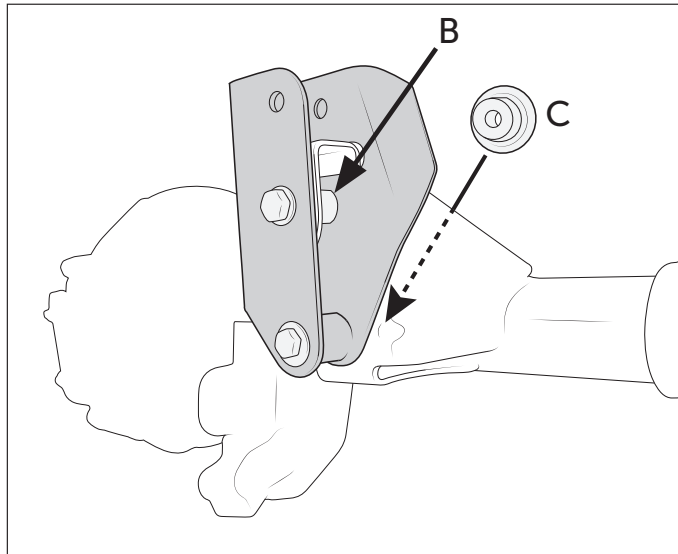

Figure 6
- B. Install the track bar tower in the orientation shown (Fig 6).
- C. Place supplied tube spacer between AEV bracket and factory axle bracket in original track bar location. Reuse factory bolt in this location (Fig 6-B).
- D. Install alignment puck into back side of factory axle bracket (side facing toward front of vehicle) and through the lower tube on track bar tower. Some resistance is normal to fully seat the alignment puck. Install M12x90mm bolt and washer from outer side of bracket, through alignment puck, and install flange nut (Fig 6-C). Nut may need to be tightened to fully seat alignment puck.